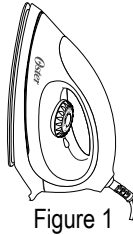

Figure 1
- The Iron should always be stored in the upright position (Figure 1).